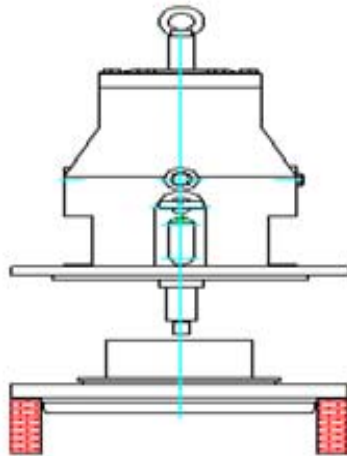

Figure 6-3 Mechanical seal disassembling / assembling
7. Check the impeller radials run out at wear ring or wear ring position (fig.6.3)
4. Hang complete assembly on the wire rope. (fig.6.3)
5. Put delivery cover on the plate. (fig.6.3)
13. Hang complete bearing bracket on the steel wire (fig 6.3)